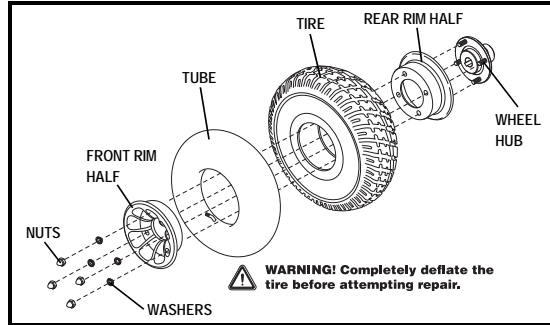

Figure 27. Quantum 610 Drive Wheel Disassembled
6. Remove the nuts and washers from the wheel hub and separate the rim halves. **See figure 27.**